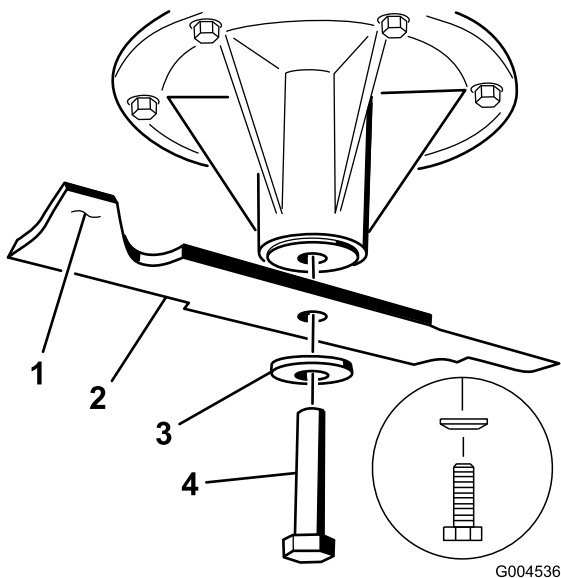

Figure 77
2. Remove the blade bolt, the curved washer, and the blade from the spindle shaft (Figure 77).
3. If the blade is not balanced, file some metal off the end of the sail area only (Figure 77).